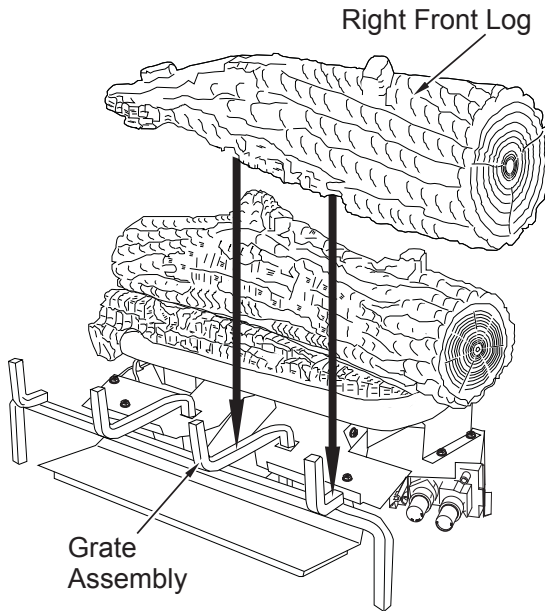

Figure 36 - Installing Right Front Log
3. Place the right front log onto the base and grate assembly as shown in **Figure 36**. The log has notches in the bottom for the grate.